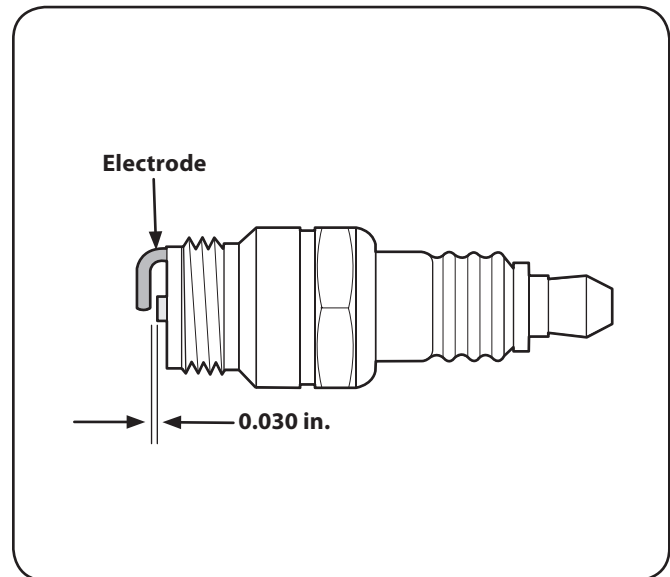

Figure 6-6
3. Measure the plug gap with a feeler gauge. Correct as necessary by bending side electrode. See Figure 6-6. The gap should be set to 0.030 in.